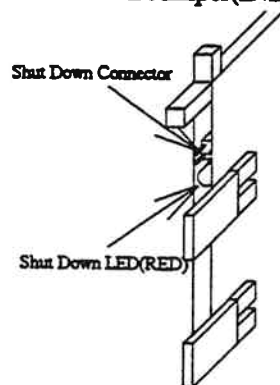

Fig. 3.3.16.4.2-1 Shut Down LED
- a. Confirm that the Shut Down LED lights.(Fig. 3.3.16.4.2-1) If the LED does not light, see Connection of Shut Down Jumper(INST03-2600).